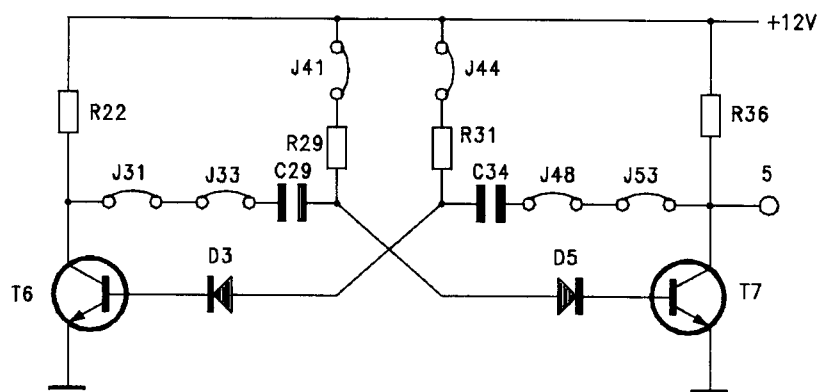

fig. B37.3
- Insert jumpers J31, J33, J41, J44, J48, J53 to produce the circuit of fig.B37.3.